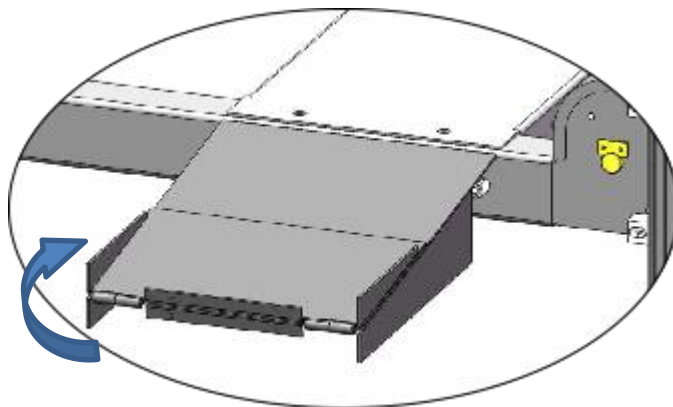

Fig. 29
M. Install spring and safety cover of cross beam (See Fig. 29).
O. Install Rear wheel stop plates (See Fig. 29)